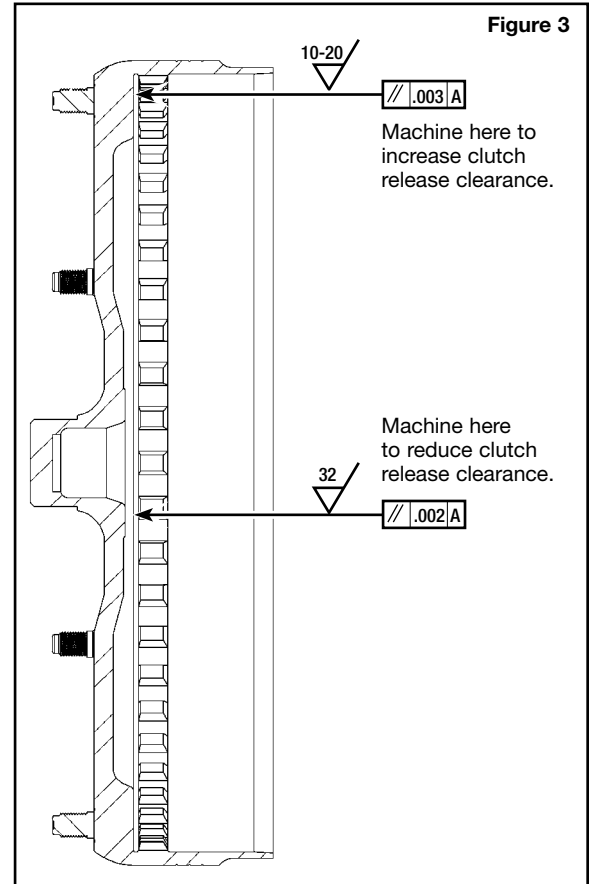

Figure 3
- d. If there is too much clutch release clearance, machine thrust surface of the front cover to bring clearance into specification (**Figure 3**). Maintain a RA 32 surface finish and keep the thrust surface parallel to the mounting pads within .002".
If increasing clearance is necessary, machine lockup surface of the front cover by the amount necessary (**Figure 3**). Make sure to keep the surface finish better than RA 20 and parallel to the mounting pads within .003".